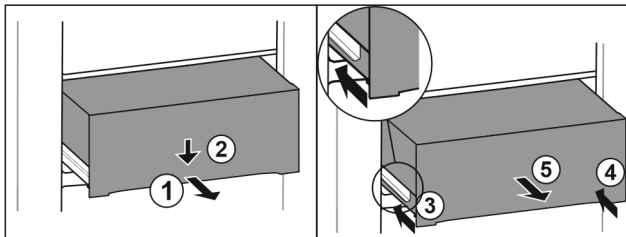

Fig. 108
- ▶ Pull out the drawer halfway. Fig. 108 (1)
- ▶ Press down the drawer on the front. Fig. 108 (2)
- ▶ Push in the left rail approximately 2 cm (13/16 in). Fig. 108 (3)
- ▶ Push in the right rail approximately 2 cm (13/16 in). Fig. 108 (4)
- ▶ Remove drawer to the front. Fig. 108 (5)